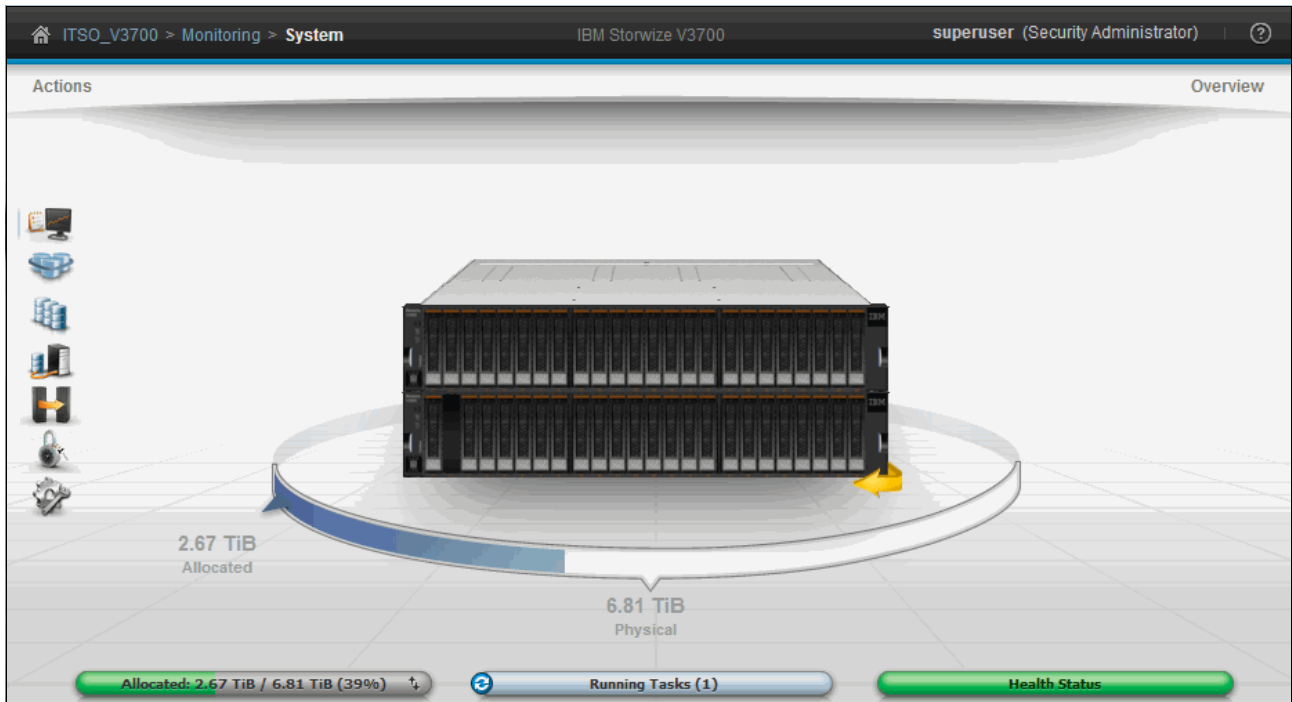

Figure 3-2 IBM Storwize V3700 System pane
2. A successful login shows the System pane by default, as shown in Figure 3-2. Alternatively, the last opened window from the previous session is displayed.